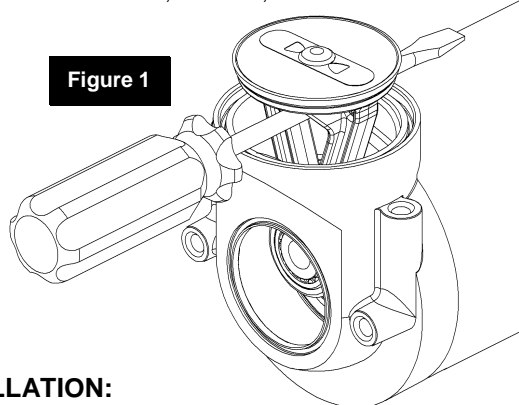

Figure 1
1. Unscrew the air filter assembly. Remove air filter flange bolts (13), air filter flange (12) and O-ring (14).
2. Remove head bolts (01) and head assembly (02). On CKMA models the bolts securing the manifold support bracket will also need to be removed.
3. Remove the BARREL (08). Place a screwdriver under the head of the piston as shown in Fig.1. This will stop the piston from moving through a full stroke.
4. Heat the CAP SCREW (11) using a micro torch to release the thread lock, unscrew it in an anti-clockwise direction, extract it along with the AXLE (10).
5. Lift the PISTON ASSEMBLY (09) from the compressor motor.